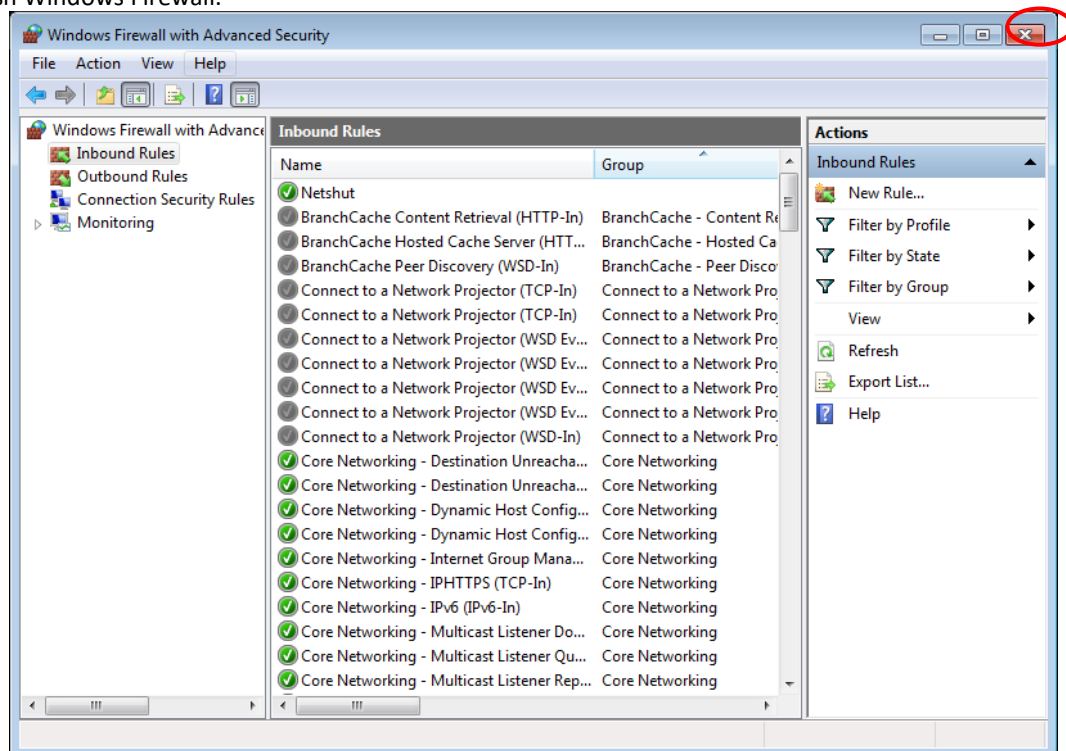

Figure 33 PROPERTY OF NETSHUT screen
- Select the [OK] button after the setting that performs authorization is changed. Only shutdown signal is authorized from 192.168.10.10 in example (Figure 33).